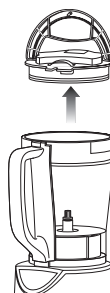
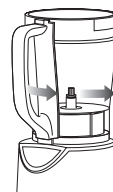

Fig. 15
Fig. 16
**⚠ CAUTION:** Never insert your hands in the pitcher as the blades are sharp. Always use a spatula to dislodge food that has stuck to the sides of the pitcher. (Fig. 15, Fig. 16)